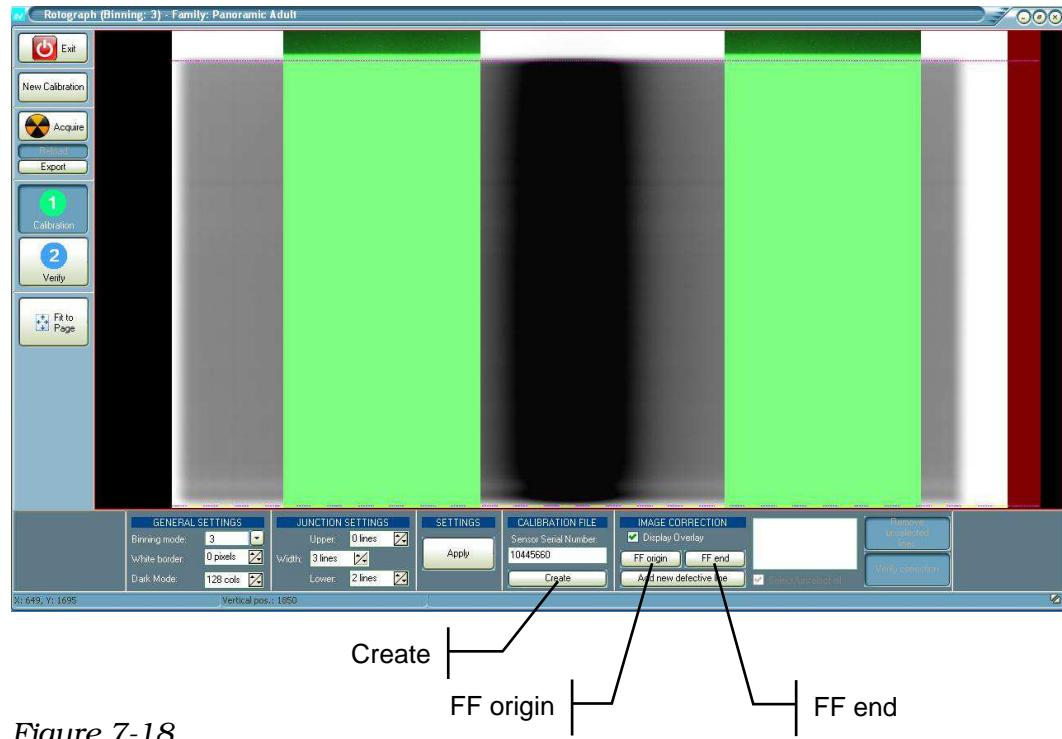

Figure 7-18
10. Holding pressed the "Ctrl" button on the keyboard, with the mouse left click on the upper limit of the exposed area: a dashed line will be added indicating the current selection. Press button "FF origin" (Figure 7-18) to save the current selection.
11. Holding pressed the "Ctrl" button on the keyboard, with the mouse left click on the lower limit of the exposed area: a dashed line will be added indicating the current selection. Press button "FF end" (Figure 7-18) to save the current selection.
12. Using the scroll whell of the mouse, zoom the image and holding pressed the mouse left button, drag the image for finding possible defective lines. In case of defective lines, proceed as described in paragraph 7.3.4, otherwise press button "Create" (Figure 7-18), then "Save" to create (or replace if already present) the calibration file.
9. Holding pressed the "Ctrl" button on the keyboard, with the mouse left click on the upper limit of the exposed area: a dashed line will be added indicating the current selection. Press button "FF origin" (Figure 7-18) to save the current selection.
- 10.** Holding pressed the "Ctrl" button on the keyboard, with the mouse left click on the lower limit of the exposed area: a dashed line will be added indicating the current selection. Press button "FF end" (Figure 7-18) to save the current selection.
- 11.** Using the scroll whell of the mouse, zoom the image and holding pressed the mouse left button, drag the image for finding possible defective lines. In case of defective lines, proceed as described in paragraph 7.3.4, otherwise press button "Create" (Figure 7-18), then "Save" to create (or replace if already present) the calibration file.